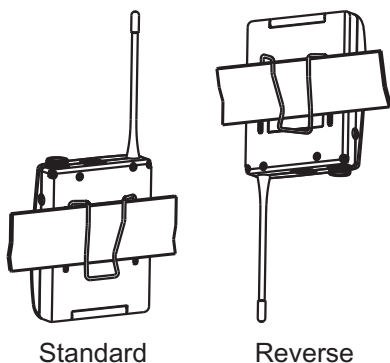

Fig.2
- ❸ Transmitting Antenna.
- ❹ Housing.
- ❺ LCD Panel.
- ❻ SET button.
- ❼ MODE button.
- ❽ Power Switch.
- ❾ ACT Sync Window.
- ⑩ Battery Compartment.
- ⑪ Battery Cover.
- ⑫ Remote control mute connector.
- ⑬ Reversible Belt Clip, Fig. 2.
- ⑭ Battery Charging Contact. (Rechargeable)
- ⑮ Battery protection circuit reset button. (Rechargeable)